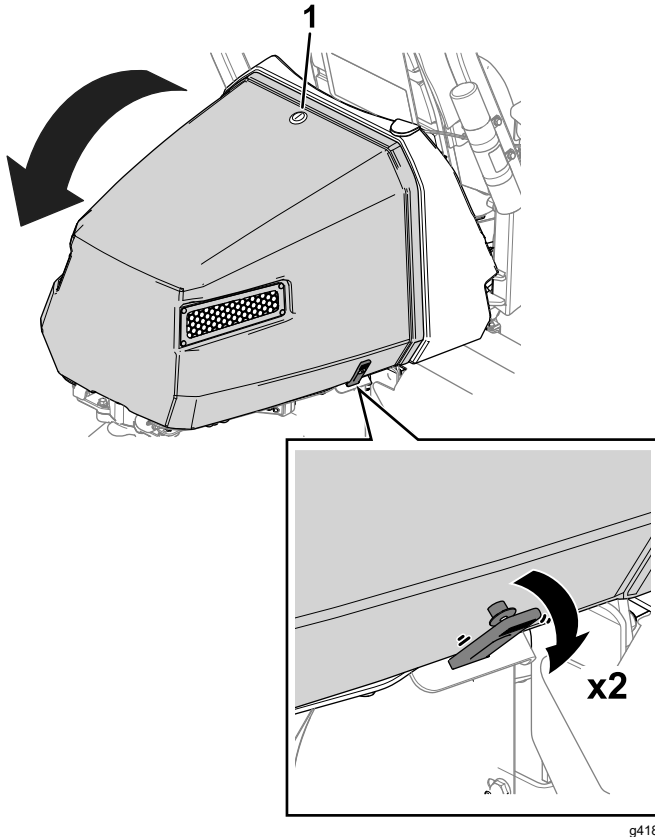

Figure 45
1. Release the hood latch (Figure 45).
2. Release the straps from each side of the hood (Figure 45).